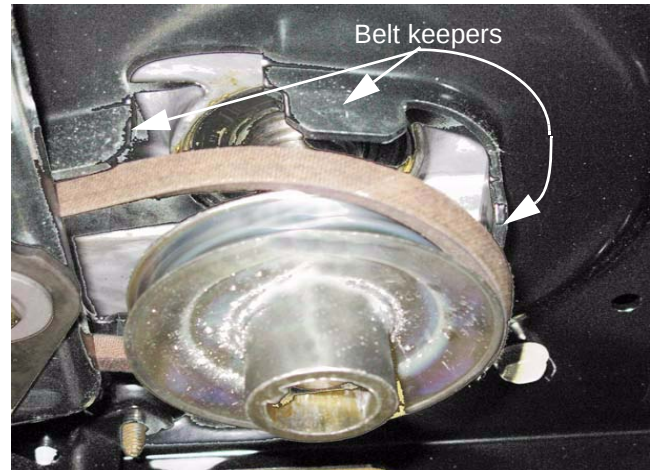

Figure 6.71
- E. Slide the pulley off of the engine crankshaft. The belt will clear the belt keepers as the pulley comes down. See Figure 6.71.